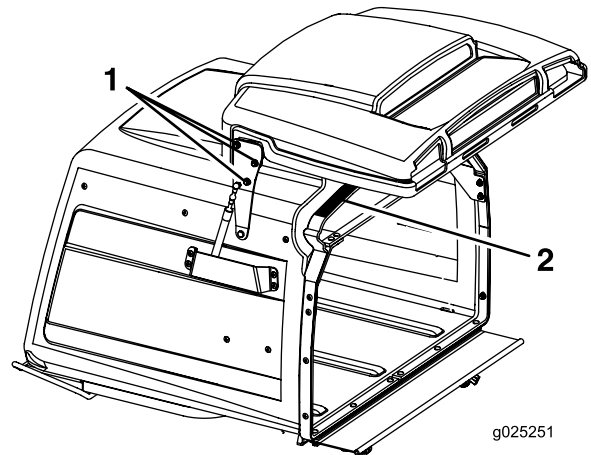

**Figure 68**
3. Locate the brake spring and thread the 2 jam nuts out to the end of the brake-spring rod (Figure 68).